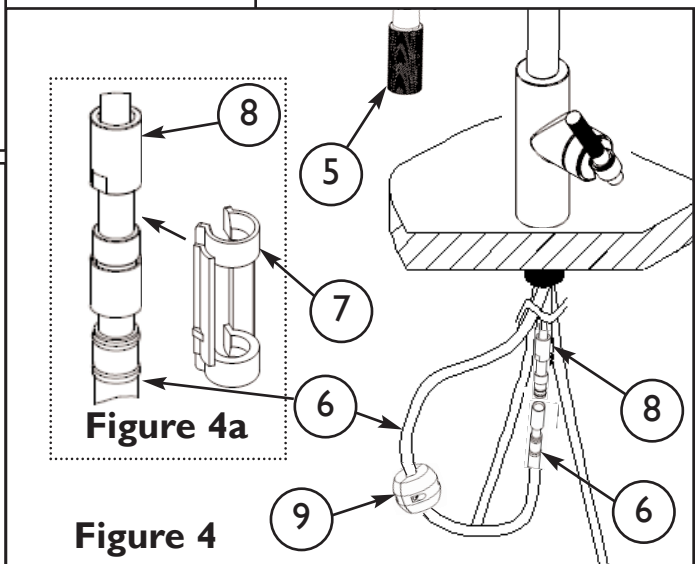

Figure 4
5. Attach WEIGHT (9) to HOSE (6) in the appropriate area shown, on the upward swing toward the SPRAYHEAD (5), in order to provide proper pull to hose. See Figure 4.
6. Connect HOSE (6) to valve OUTLET(8). See Figure 4. Attach CLIP (7) to the connection between HOSE (6) and OUTLET(8). See Figure 4a.